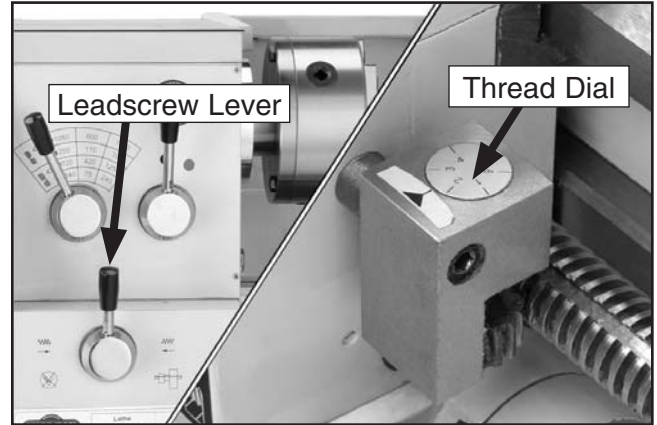

Figure 37. Threading controls.
6. Use the leadscrew lever to select leadscrew direction (**Figure 37**).